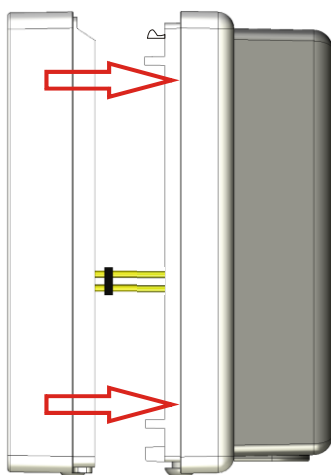

Fig. 4 Fitting of the housing cover
- Put the casing upper part straight onto its bottom part and snap it in. (see Fig. 4)
**Insert the pin board X1 of the Reader electronic carefully in the socket board X3 of the connection board (1)!**